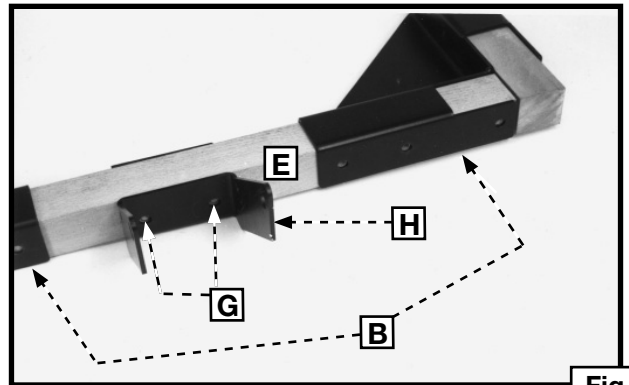

Fig. 8
- With the end and side boards in place (B) Fig. 8, place the pivot bracket (H) at the end of the base, midway between the brackets (B) where the foot pedal and caster assembly will be located.
NOTE: Position the pivot bracket (H) Fig. 8 directly opposite the two wheels (Fig. 12). Mark the location of the two places (G) Fig. 8 where you will drill the $7/16"$ diameter through-holes to mount the pivot bracket (H).